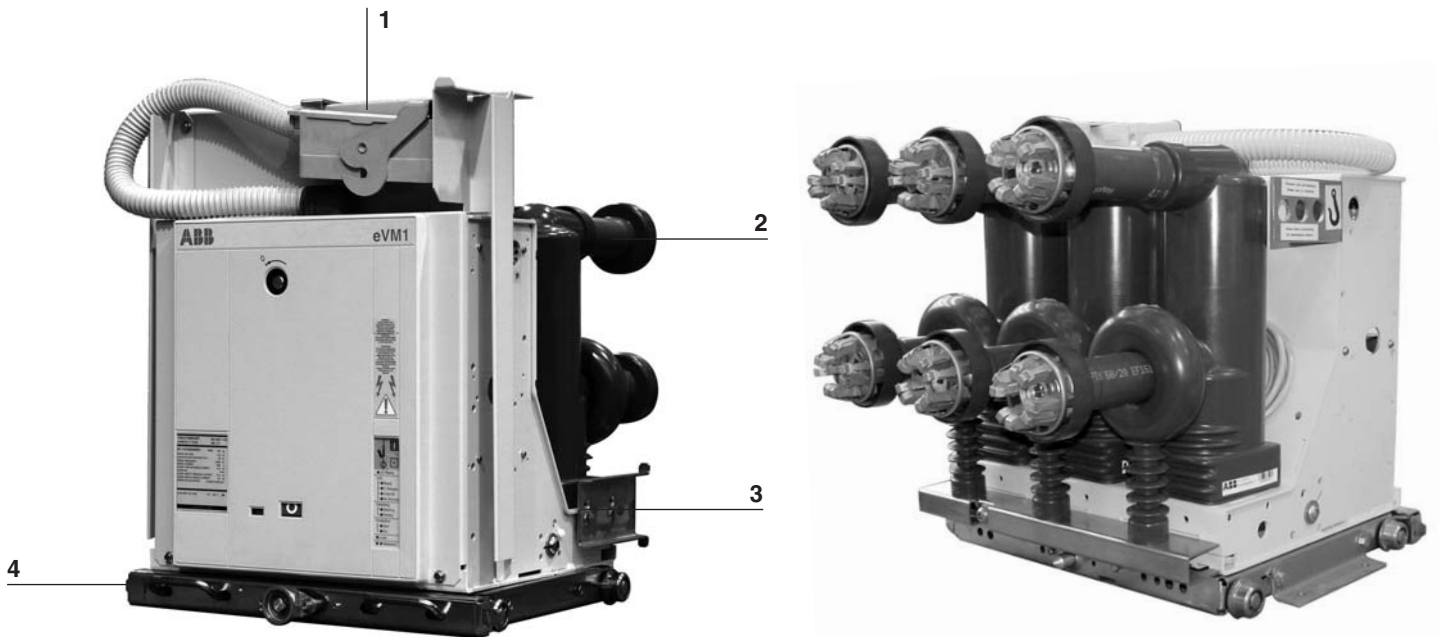

Fig. 8
The withdrawable truck (4) (fig. 8), either manual or motorised, consists of a steel sheet structure with wheels (3), on which the circuit-breaker with the relative auxiliary components, the isolating contacts (2) for electrical connection with the switchgear and the multi-pole connector (1) for connection of the circuit-breaker auxiliary circuits are installed.